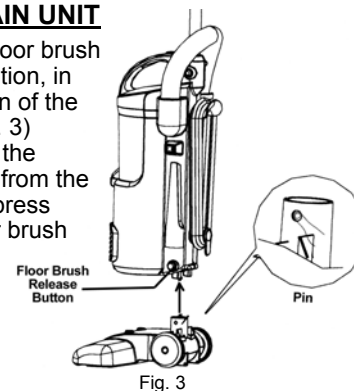

Fig. 3
- Insert the floor brush into its location, in the direction of the arrow. (Fig. 3)
- Press the floor brush release button to remove the floor brush. (See Fig. 3 page 4)